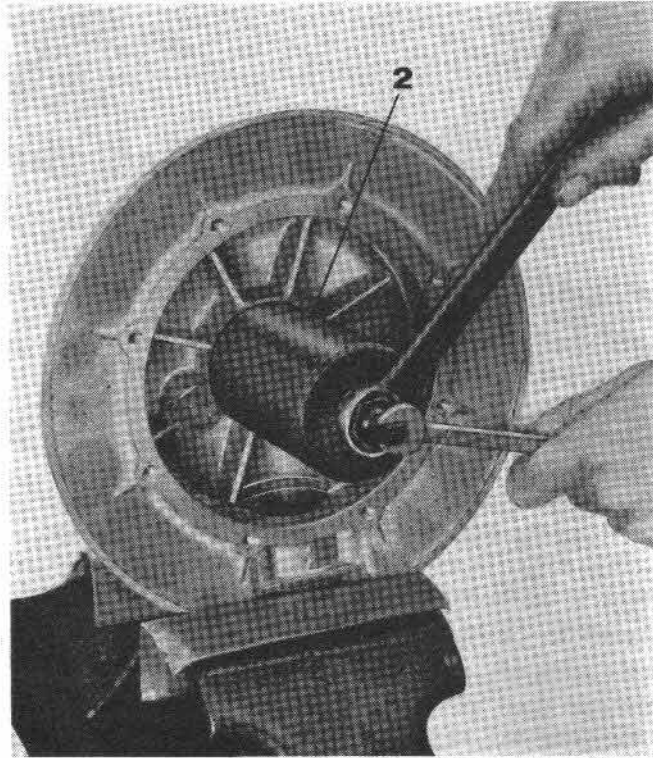

Fig. 86
- remove roller bearing race by means of pulley No. 12906900 (see 2 on Fig. 86).